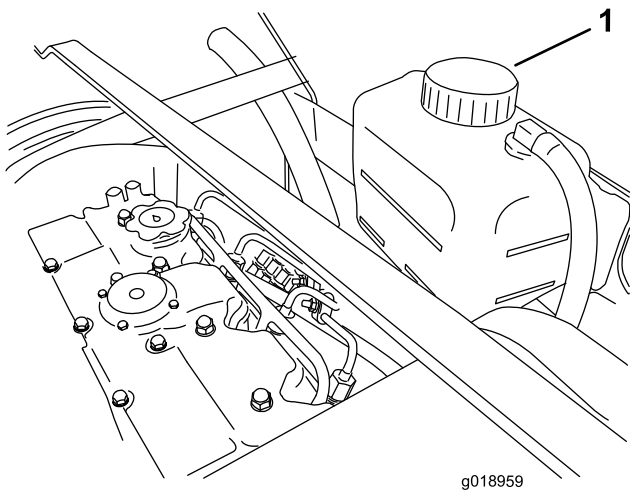

Figure 14
The coolant level should be up to upper line mark on the expansion tank (Figure 14).
1. Remove the coolant expansion tank fill cap (Figure 14).